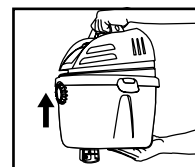

FIGURE 4
10. Before removing vacuum from wall bracket, check to make sure tank cover is secured to tank. To remove vacuum from wall bracket, grasp top handle with one hand and tank bottom with other hand. Slide vacuum off of wall bracket by lifting straight up on vacuum **FIGURE 4.**